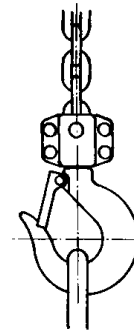

Figure 4
- Correctly center the load on the bottom hook (Figure 4). Incorrect loading is dangerous to the operator, the lever hoist, and the load.